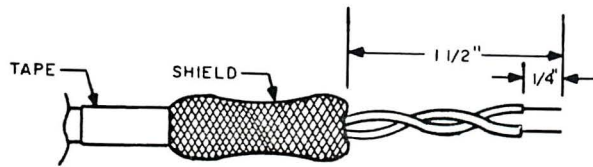

Figure 4-7. Shielded, Twisted Pair Preparation.
10. Strip 1-1/2 in (6 cm) of insulation from one end of the twisted, shielded pair to expose the shield. Carefully fold the shielding back over the insulation to expose the twisted pair as shown in figure 4-7. Tape the splayed ends of the shield to the insulation. Strip 1/4 in (1 cm) of insulation from each of the exposed wires, and tin the leads.